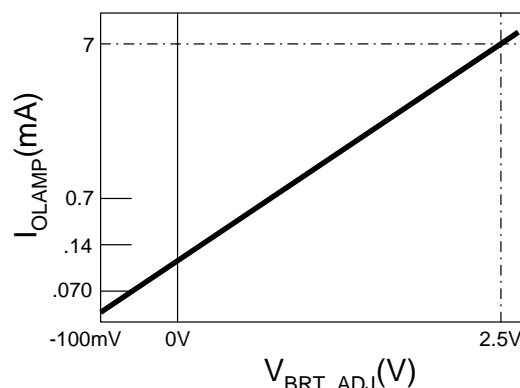

Figure 9 – Average Lamp Current vs. V_{BRITE} Voltage (per Lamp)
1. By varying the input voltage on the brightness pin as indicated in Figure 9. Caution must be exercised when applying negative voltage to the brightness control input. Applying more than -300mV to any inverter input will cause inverter malfunction (see Absolute Maximum Ratings).